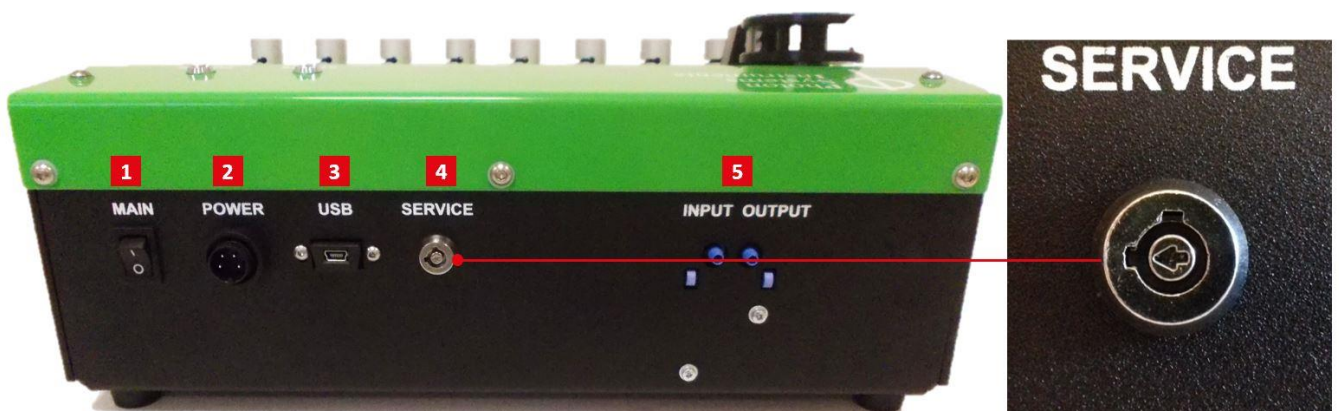

Fig. 4 Rear panel of the Turbidostat module.
See description of the individual features and ports of the Turbidostat module in Fig. 3 and Fig. 4.
Please, do not touch the metal service button (4) on the rear side of the device without PSI manufacturer directions. The arrow should be left in the horizontal position (see Fig. 4).